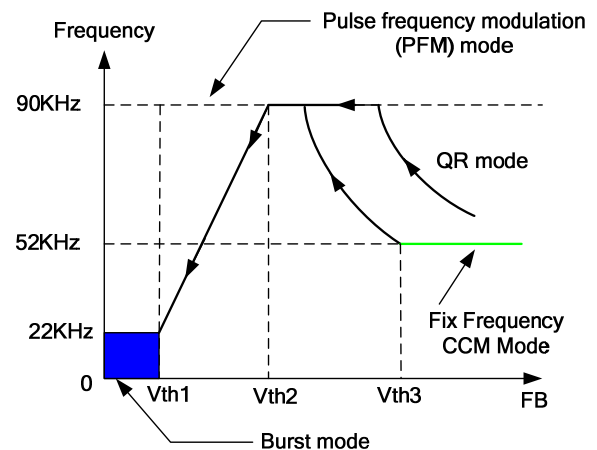

Figure 1
■ At full load conditions ($V_{FB} > V_{th3}$, Figure 1), there are two situations: firstly, if the system input is in low line input range, the IC operates in fix frequency (52KHz @ $R_{I} = 20K \text{ Ohm}$) CCM mode. Thus, small size transformer can be used with high power conversion efficiency. Secondly, if the system input is in high line input range, the IC operates in QR mode. In this way, high power conversion efficiency can be achieved in the universal input range when system is at full loading conditions.
■ At normal operating conditions ($V_{th2} < V_{FB} < V_{th3}$, Figure 1), the system operates in QR mode. The frequency varies depending on the line voltage and the load conditions. Therefore, the system may actually work in DCM when 90KHz frequency clamping is reached.
■ At light load conditions ($V_{th1} < V_{FB} < V_{th2}$, Figure 1), the system operates in PFM (pulse frequency